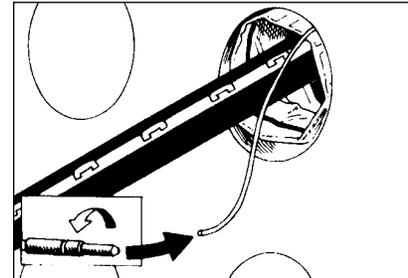

Figure 10
- Connect the filling tube to the tube-snap of the inflation tool, making sure that the filling tube bottoms out inside the inflation tool connector. (Figure 10)